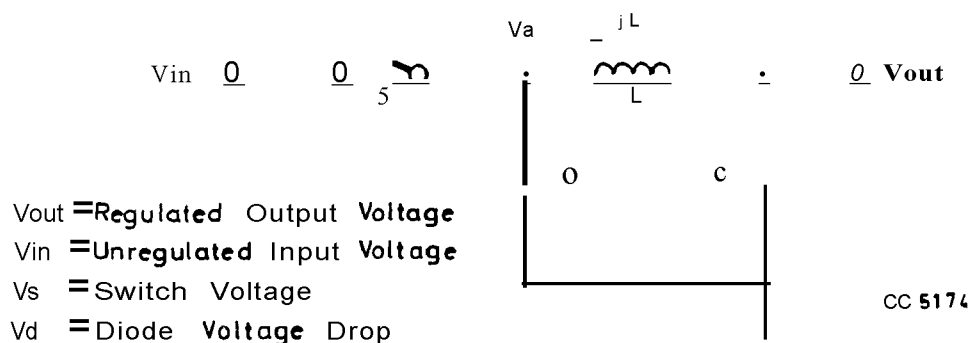

Fig. 7 Step-down voltage regulator
43. The basic theory of the step-down switchmode regulator (refer to Fig. 7) is as follows: When switch S closes, the voltage V_a rises close to V_{in} ($V_{in}-V_s$), and the voltage V_a-V_{out} is applied across the inductor causing the current to rise from zero. This current flows from the switch through the inductor and into the load and output capacitor. When the instantaneous inductor current, i_L , is less than the load current, the capacitor provides the extra current and V_{out} decreases slightly. When i_L exceeds the output current the remaining current flows into the capacitor, increasing V_{out} ; i_L will increase until the switch is turned off. At this instance, since the inductor current cannot change instantly, V_a falls to $-V_d$ so diode D can turn on and provide the inductor current. The voltage across the inductor is now $-(V_{out}-V_d)$ so the change in inductor current will be negative. The inductor current continues to fall toward zero until S turns on again and the cycle is repeated. The electronics in the system controls the on and off time of S so that the average inductor current equals the output current; the average capacitor current will be zero, and V_{out} will remain constant.